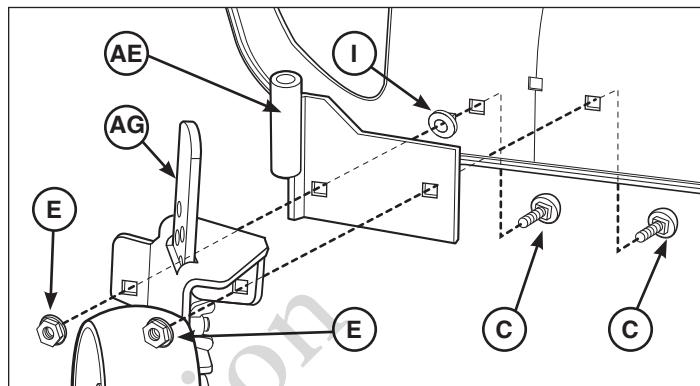
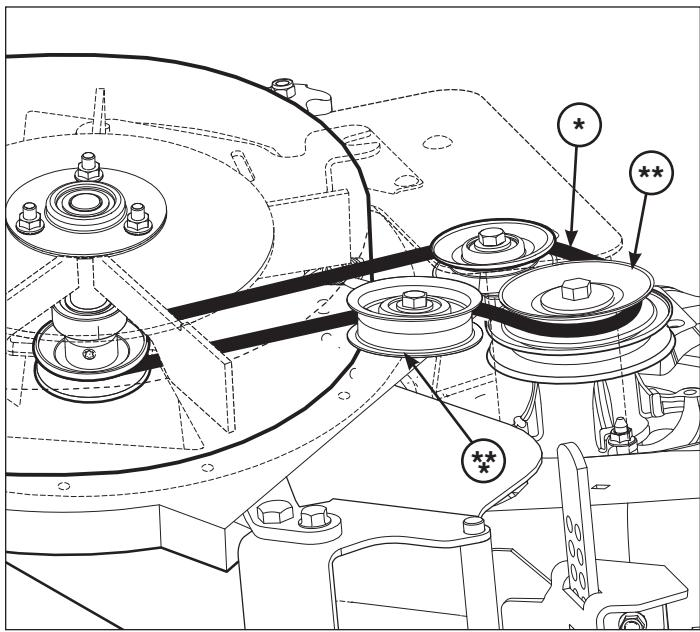

Figure 11
Figure 21
1. From inside of mower, insert carriage bolt (**C**, Figure 11) through hole closest to the right of the discharge opening.
1. Install the turbo drive belt (*, Figure 21) on the pulleys (***) and (****) as shown.
2. If the turbo drive pulley (**, Figure 21) is NOT in line with the turbo fan idler pulley (***), loosen nuts on front pivot bracket (See Figure 11, 12, 13 or 14).
4. Tighten hardware of front pivot brackets and gage wheels assembled in Figure 11, 12, 13 or 14.